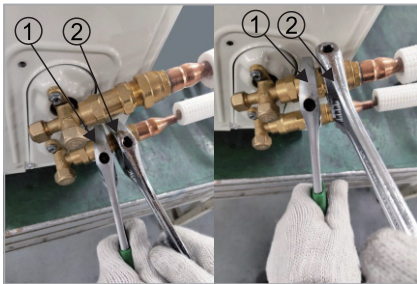

Fig.9
- Now tighten the bottom screw connector first and then the top screw connector using the open-ended spanner. Hold the points marked “①” using an open-ended spanner and turn the nuts only at the points marked “②” using an open-ended spanner (Select the appropriate spanner according to the dimensions of the connector). see Fig. 9.